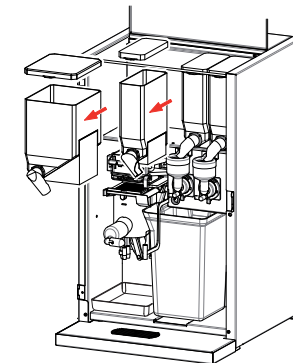

Fig. 26
4. Turn the dispensing element(s) back to their correct position (fig. 26).